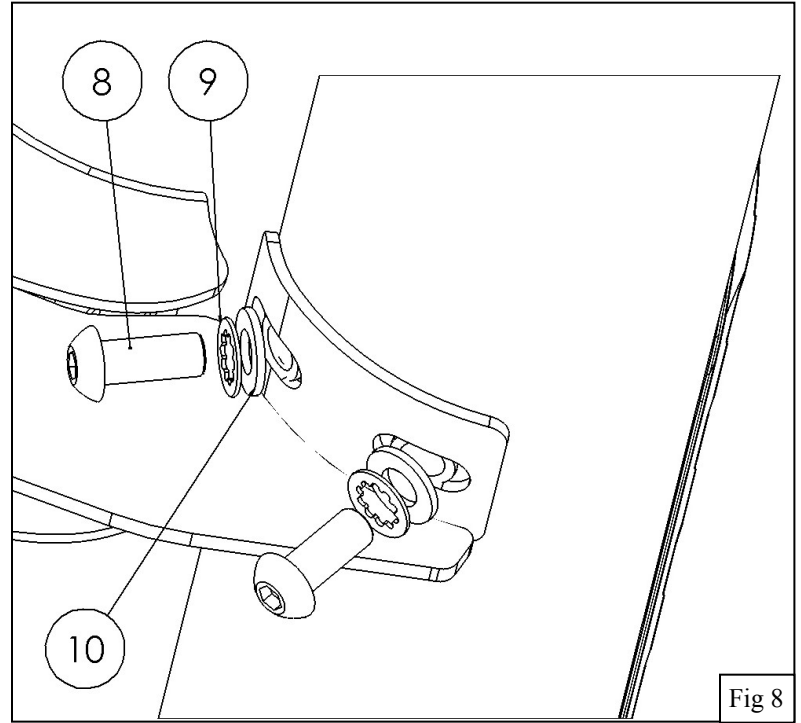

Fig 8
9. Fasten oval tube step bars respectively to either side using the M10 hardware provided with the step bars. See **Figure 8**.